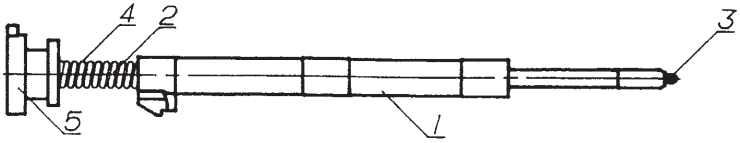

Fig. 5 – Firing mechanism
9. Firing mechanism (Fig. 5) serves to fire the round which is in the chamber.
- 5) Fig 5: Load desired number of rounds to be used into magazine a) Make sure safety is blocking the trigger b) Insert the magazine back